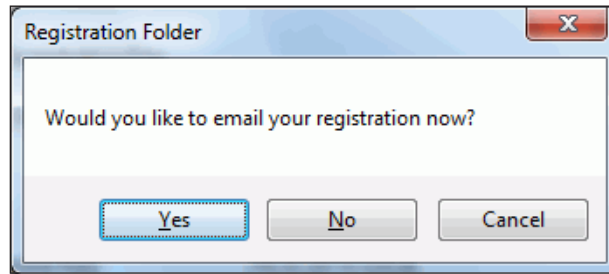

Figure 86 - Email Registration
3. Enter all required information, as marked by *, click **Save** then **<< Prev** and click  and Figure 86 appears.